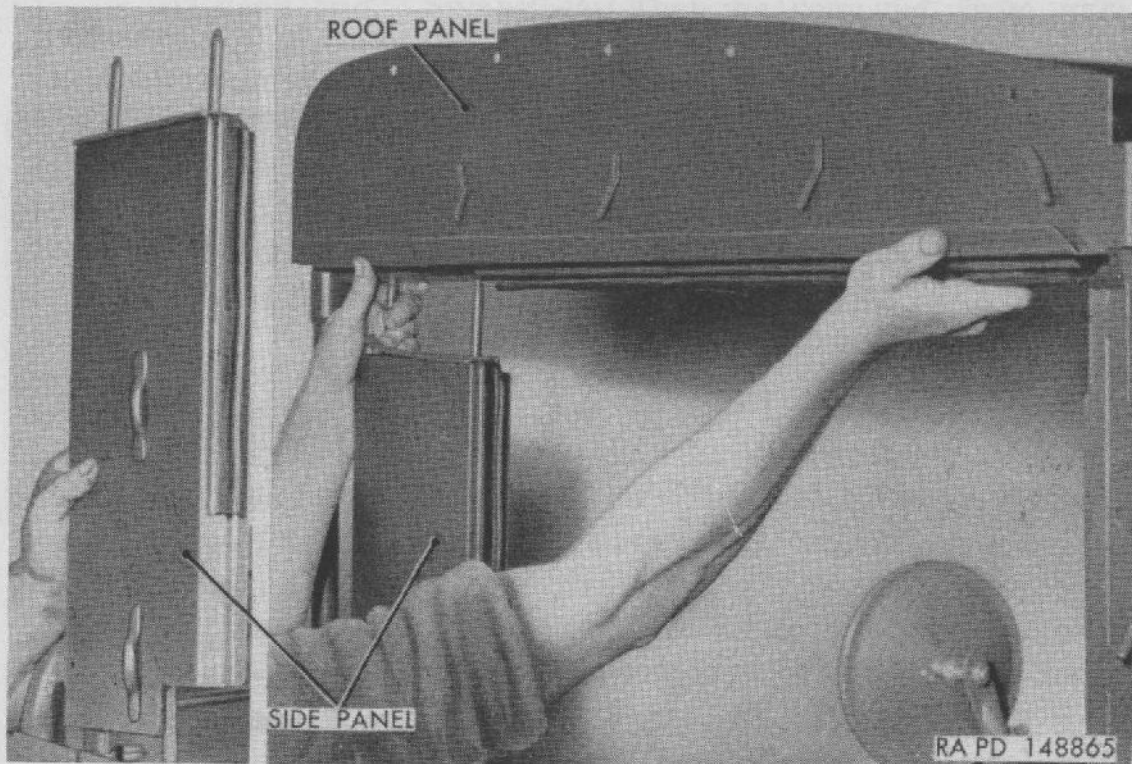
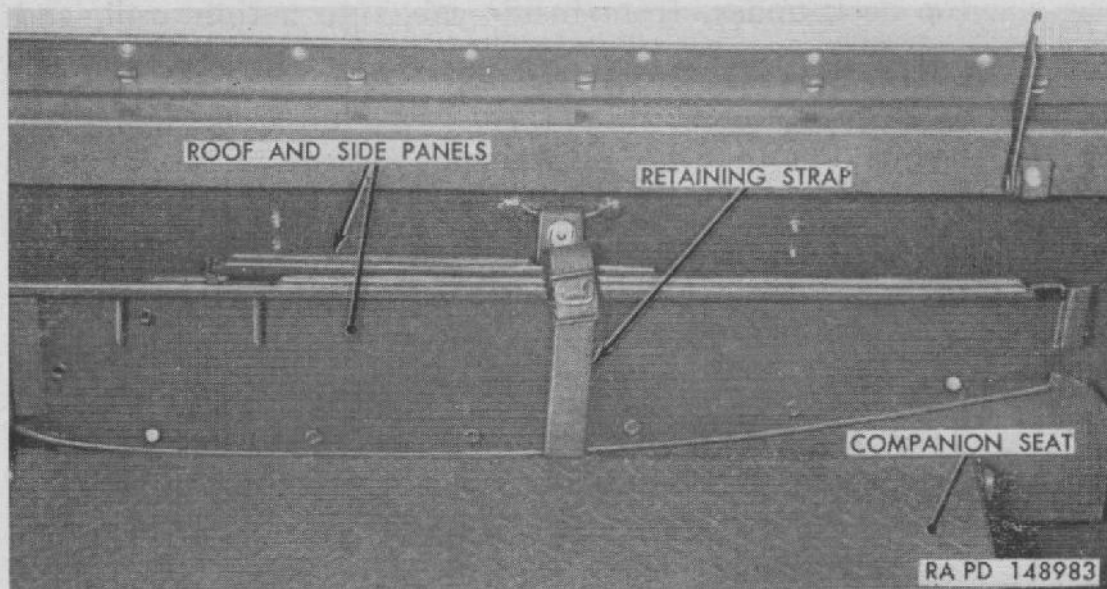

Figure 164. Removing roof and side panels (right-side shown).
Figure 165. Roof quarter and side panel stored.
- (3) *Top deck rolled and top bow down.* Roll top deck and rear curtain ((1) and (2) above). Push each roof panel straight upward to disengage from windshield and top bow anchors and from side panel studs (fig. 164). Lift each side panel straight upward to disengage studs; then remove from cab. Bolt roof panels together and bolt rear quarter panels together, using existing holes and special bolts provided for that purpose. After bolting together, stow roof and side panels back of companion seat and secure with strap (fig. 165). Loosen both top bow ring nuts and lower top bow to stops; then tighten ring nuts firmly.